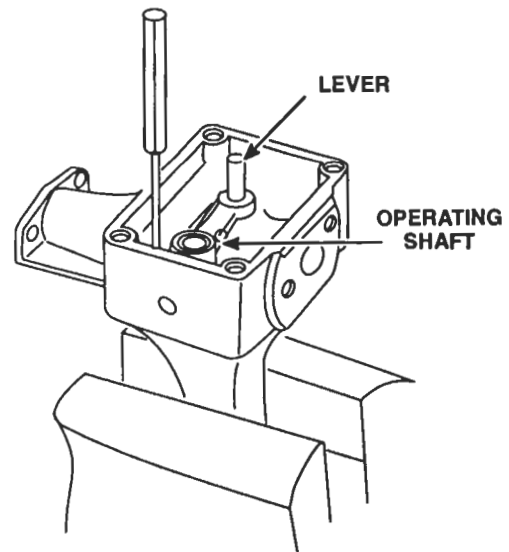

Figure 6. Removing Variable Speed Spring Plunger Guide
- d. Remove the variable speed spring plunger guide (Figure 6.) Remove the bearing retaining screw, flat washer and lock washer.